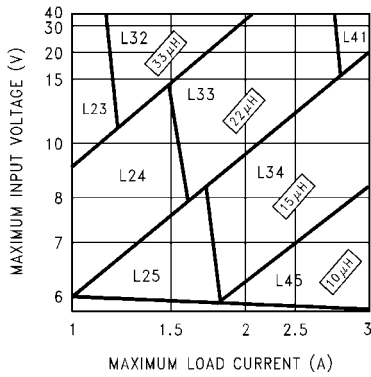
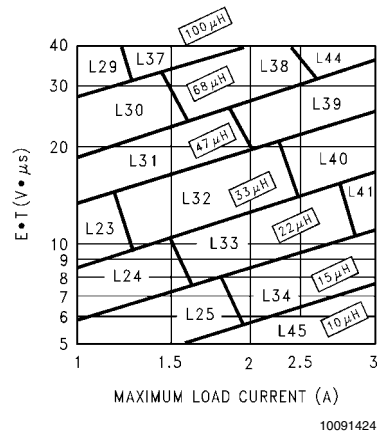

FIGURE 3. LM2676-3.3
FIGURE 6. LM2676-ADJ
**Step 3:** Determine the inductor required by using one of the four nomographs, *Figure 3* through *Figure 6*. Table 1 provides a specific manufacturer and part number for the inductor.
**Step 5:** Determine an input capacitor from Table 4 for fixed output voltage applications. Use Table 2 to find the specific capacitor type. For adjustable output circuits select a capacitor from Table 2 with a sufficient working voltage (WV) rating greater than  $V_{in\ max}$ , and an rms current rating greater than one-half the maximum load current (2 or more capacitors in parallel may be required).
**Step 3:** Use the nomograph for the 3.3V device, *Figure 3*. The intersection of the 16V horizontal line ( $V_{in\ max}$ ) and the 2.5A vertical line ( $I_{load\ max}$ ) indicates that L33, a 22 $\mu$ H inductor, is required.
**Step 3:** To use the nomograph for the adjustable device, *Figure 6*, requires a calculation of the inductor Volt•microsecond constant ( $E \cdot T$  expressed in  $V \cdot \mu s$ ) from the following formula:
Using *Figure 6*, the intersection of 27V $\cdot\mu$ s horizontally and the 2A vertical line ( $I_{load\ max}$ ) indicates that L38, a 68 $\mu$ H inductor, should be used.
**Important Note:** When using the adjustable device in low voltage applications (less than 3V output), if the nomograph, Figure 6, selects an inductance of 22 $\mu$ H or less, Table 6 does not provide an output capacitor solution. With these conditions the number of output capacitors required for stable operation becomes impractical. It is recommended to use either a 33 $\mu$ H or 47 $\mu$ H inductor and the output capacitors from Table 6.